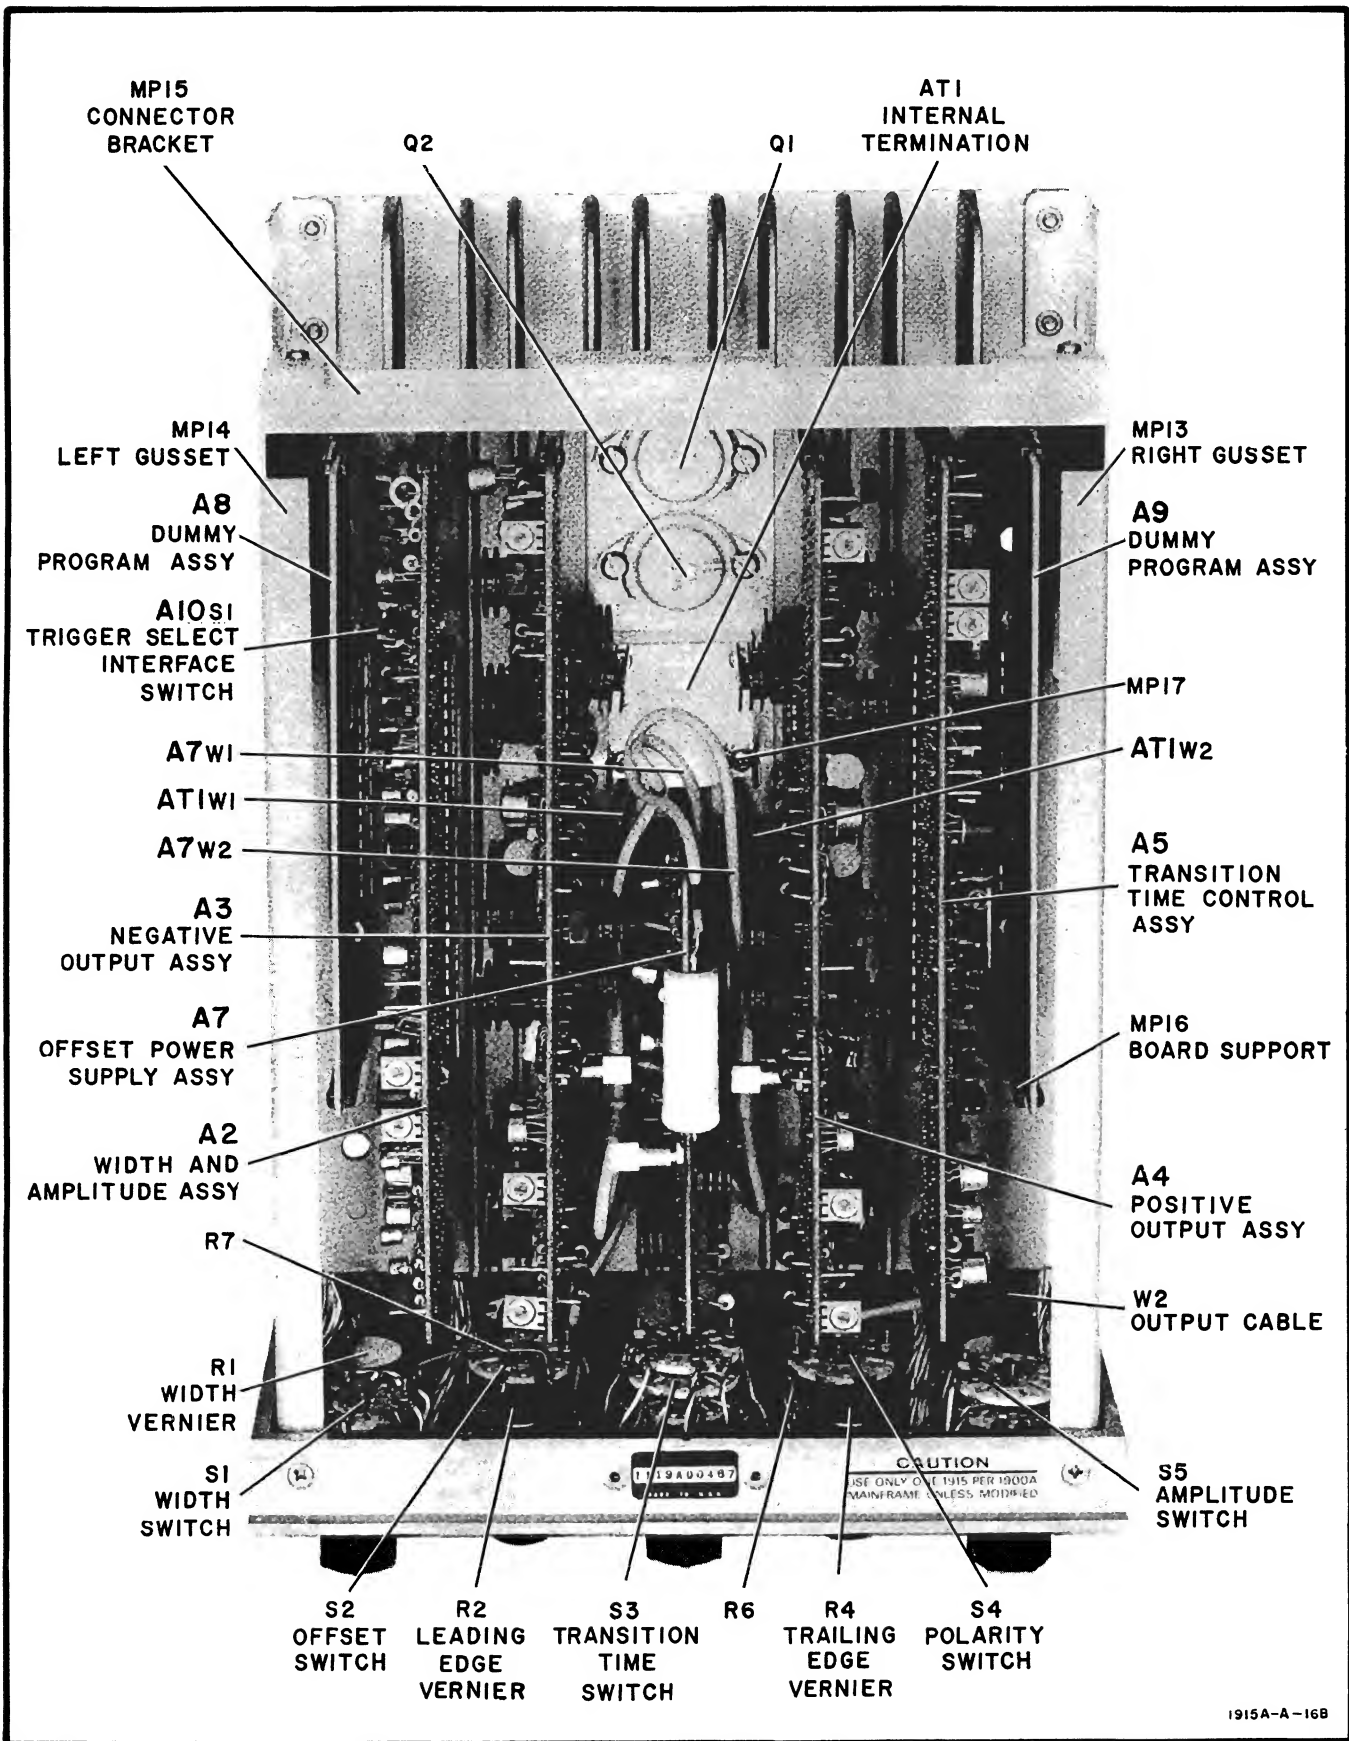

Figure 8-2. Assemblies and Chassis Mounted Parts Locations (Top View)
c. Connect internal 50-ohm termination AT1R1B by connecting coaxial cable AT1W1 to snap-on jack A4J2 (see Figures 8-2 and 8-19).